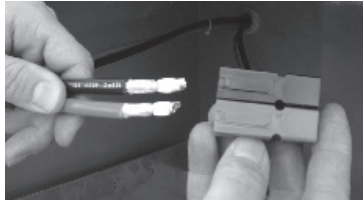

Fig. 2-9, Attaching Anderson Connectors to Battery Cables
7. In the PWE-SG enclosure, using the provided Anderson connectors, terminate the battery cable. See Fig. 2-9.